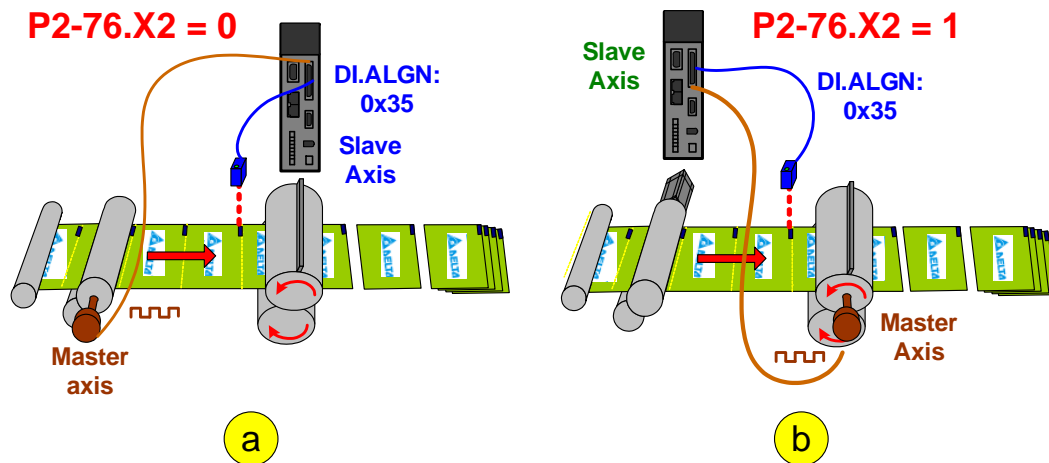

Figure 3.8.12 Mechanisms which can apply the function of cam positioning
- P2-76.X2 is for reading the relation of marks and camshaft. Take figure 3.8.12 as the example. The cutter axis of 'mechanism a' is the slave axis which travels according to the E-cam curve. Film feeding axis with marks is the master axis. The sensor of cam positioning reads the marks on wrapping film which transmits by film feeding axis and transmits DI.ALGN signal to the cutter axis for adjustment. When the slave axis is doing the adjustment, it will not influence the transmission of wrapping film. When applying to this mechanism, please set P2-76.X2 = 1. For 'Mechanism b' in figure 3.8.12, the cutter axis is the master axis and the film feeding axis is the slave axis. Therefore, the film feeding axis travels is in accordance with the E-cam curve. DI.ALGN signal needs to be sent to the film feeding axis. When executing cam positioning, the transmission of wrapping film will be influenced by the adjustment. Thus, this application needs to set as P2-76.X2 = 1.